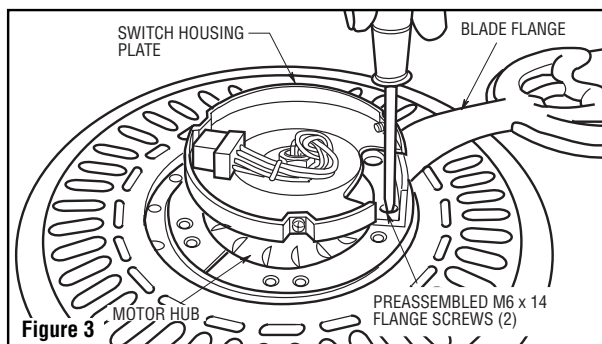

Figure 3
8. Rotate the motor hub until the flange screw hole is next to the cutout in the switch housing plate. Attach the blade assembly to the motor hub using the two M6 x 14 flange screws preassembled in flange (Figure 3). Make sure all screws are tightened. Repeat this procedure for the other four blade assemblies.